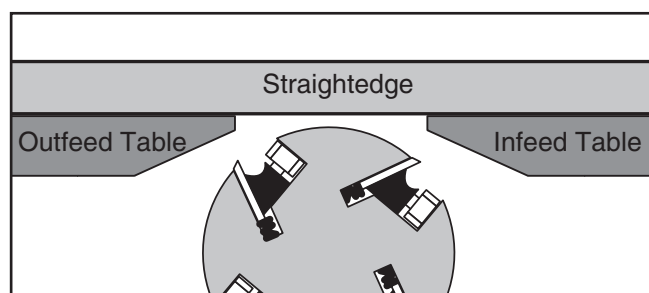

Figure 50. Infeed and outfeed tables set evenly.
3. Place the straightedge halfway across the infeed table and halfway over the outfeed table, and adjust the infeed table even with the outfeed table, as shown in **Figure 50**.
6. Place the straightedge halfway across the infeed table and halfway over the outfeed table, and adjust the infeed table even with the outfeed table, as shown in **Figure 50**.